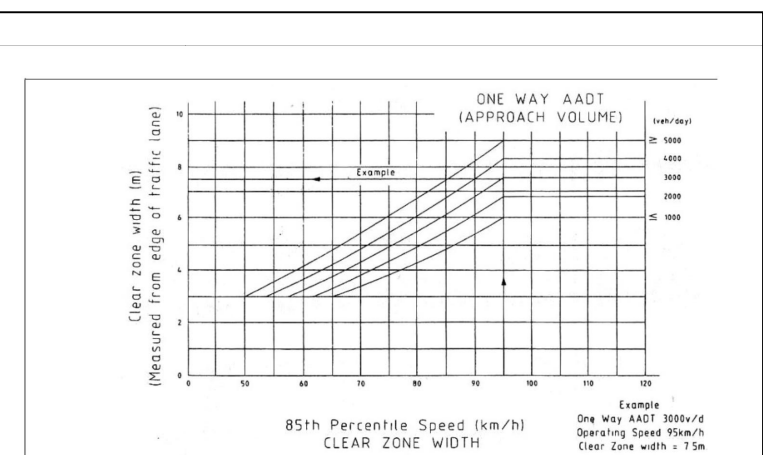

Figure 6: Clear zone width chart (Austroads 2003b)
- Refer to Department of State Growth Road Hazard Management Guide - Figures 6 and 7 for clear zone determination. Headwalls inside clear zone are to be driveable.
5. Refer to Department of State Growth Hazard Management Guide — Figures 6 and 7 on TSD-R03 for clear zone determination. Headwalls inside clear zone are to be driveable